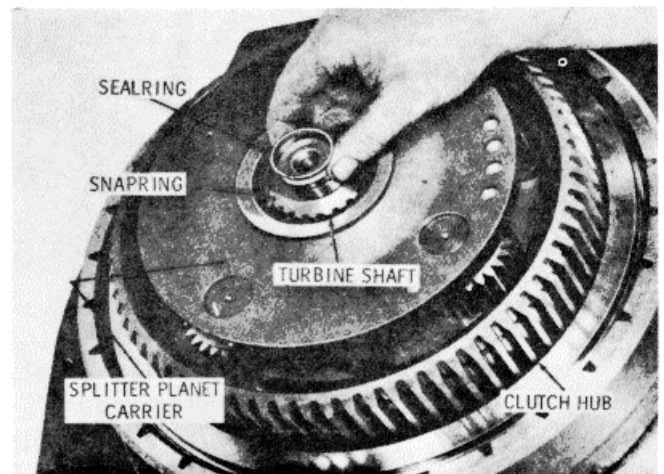

Figure 15-61. Removing Hook-Type Seal Ring from Rear of Turbine Shaft
3. Turn the retarder housing so that the assembly rests on the front of the turbine output shaft (Figure 15-61). Remove the hook-type seal ring from the turbine output shaft. Remove the snap ring. Remove, as a unit, the splitter planetary carrier assembly and splitter-direct clutch hub.